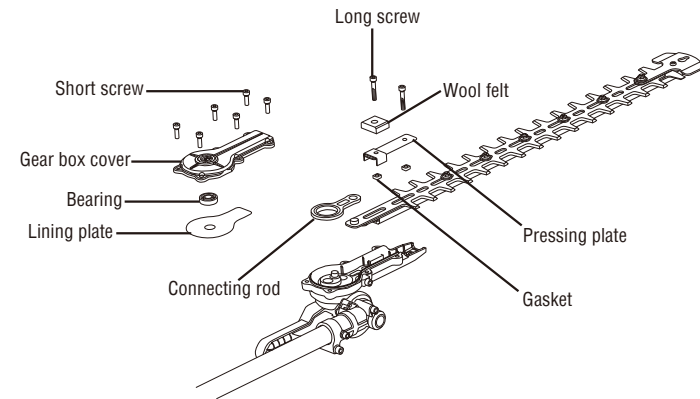

Fig. 6A
2. Adjust the blade to the horizontal position (0°), ensuring that the blade assembly is in line with the hedge trimmer shaft, and put the gearbox cover upwards (Fig. 6A).